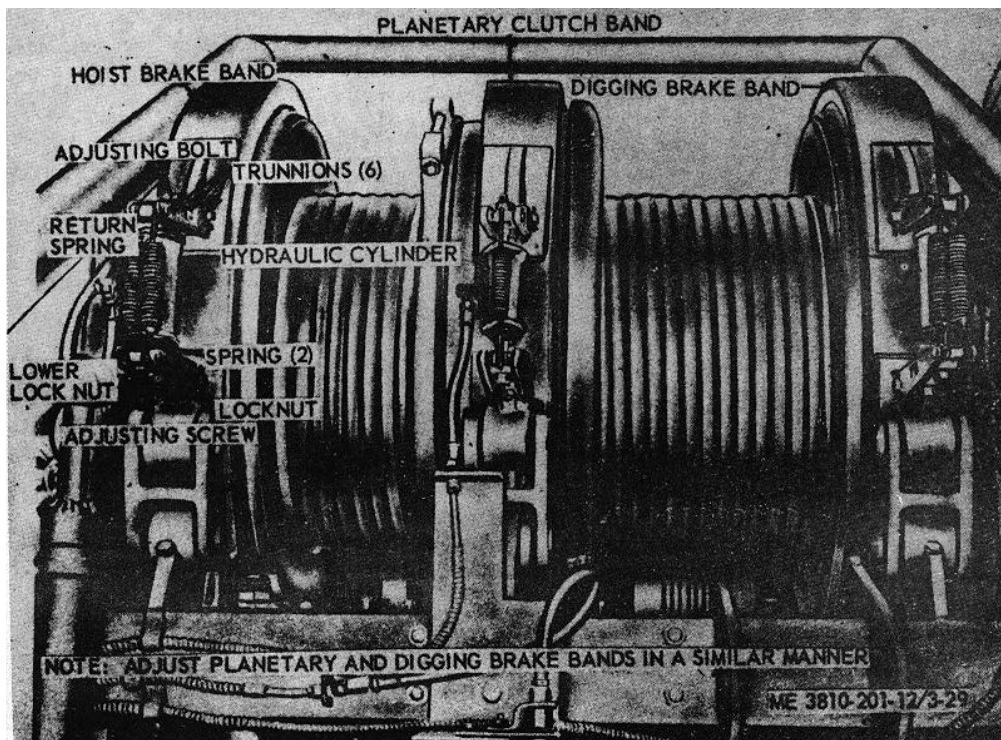

Figure 3-21. Hoist brake, digging brake, and planetary clutch band adjustment.
b. Adjust planetary clutch band (fig. 3-21) by loosening locknut and tightening adjusting bolt as far as it will go, then back-off on adjusting bolt until operation of clutch lever engages clutch with band smoothly under nominal pressure. After clutch band is properly adjusted, tighten locknut.